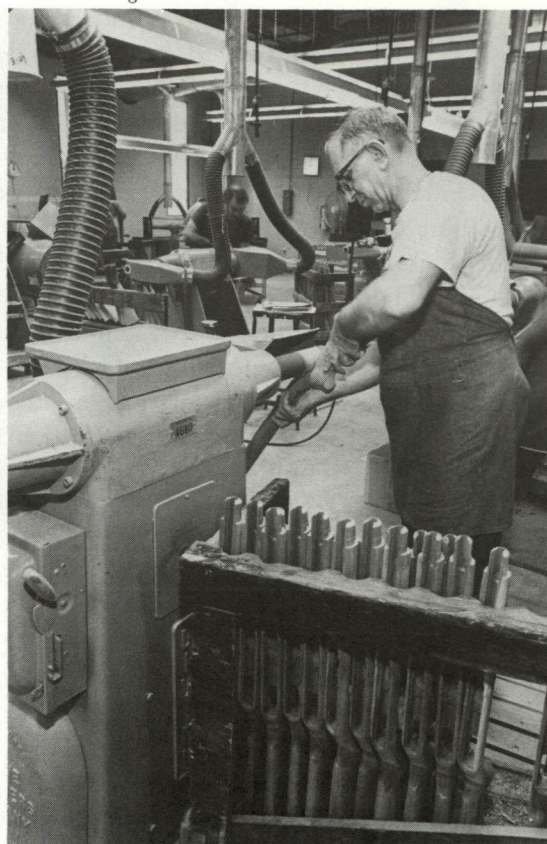

Figure 1
*Machines can do a lot in modern gun making but Figure 2 shows that it still takes skilled hands to finish sand a stock. In Figure 1 a tape-controlled automatic machine controls stock manufacture.*